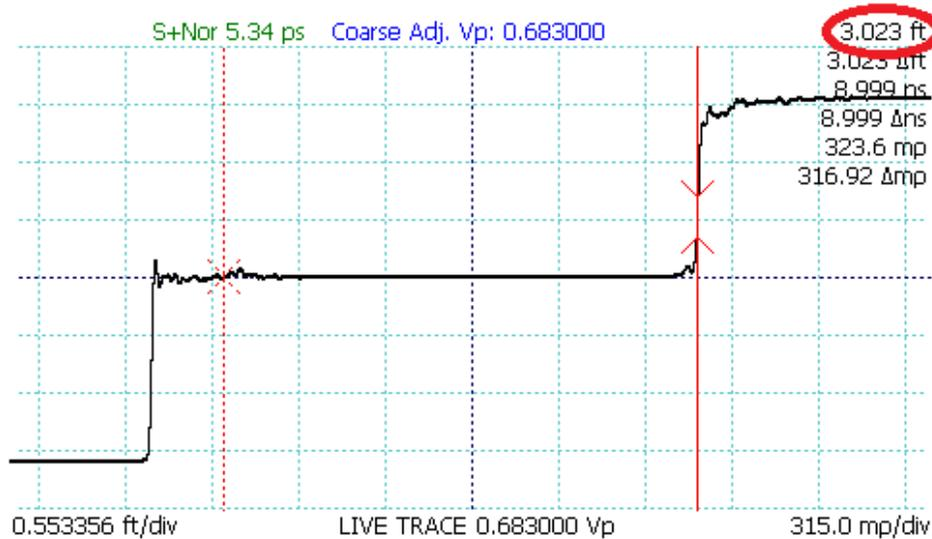

Figure 4.5. Screenshot showing AUTOFIT result.
- If using the *Special Main* menu, press the *MENU* button then *Distance to Fault*. If using the *Standard Main* menu, press the *AUTOFIT/HELP* button, then select the *AUTOFIT* menu item. The CT100B will display a trace that includes the beginning and the end of the test cable. The cursors will be moved to an area approximate to the cable ends. Figure 4.5 shows an AUTOFIT result. The cable end, in this case an open termination, has been found at 3.023 feet and the whole cable trace is displayed on the screen.